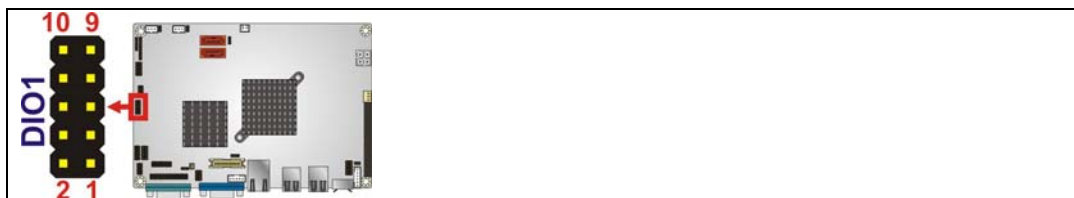

Figure 3-12: DIO Connector Locations
- CN Location:** See **Figure 3-12**